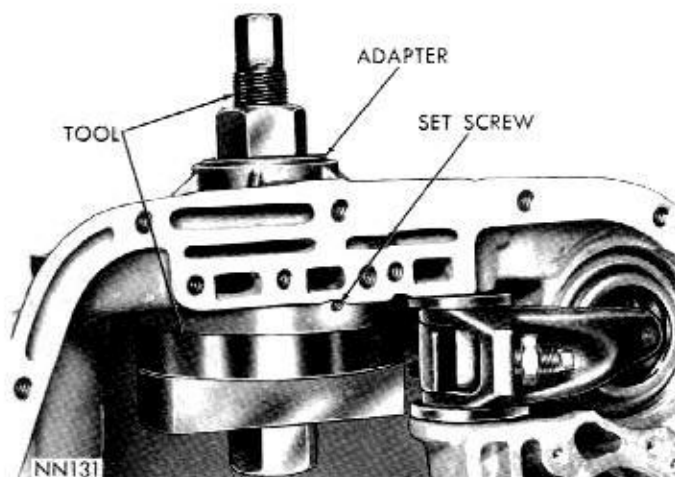

Fig. 79—Installing Overrunning Clutch Cam (A-727)
(3) Clean all burrs and chips from cam area in the case.
(4) Place spring retainer on the cam, making sure retainer lugs snap firmly into notches on the cam.
(5) Position cam in the case with cam serrations aligned with those in the case. Tap cam evenly into the case as far as possible with a soft mallet.
(6) Install Tool C-3863 and Adapter SP-5124 as shown in Figure 79, tighten nut on tool to seat cam into the case. Make sure cam is firmly bottomed, then install cam retaining set screw. Stake the case around set screw to prevent it coming loose.